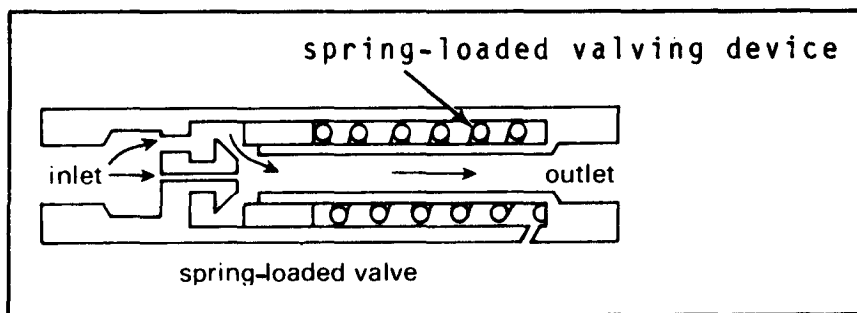
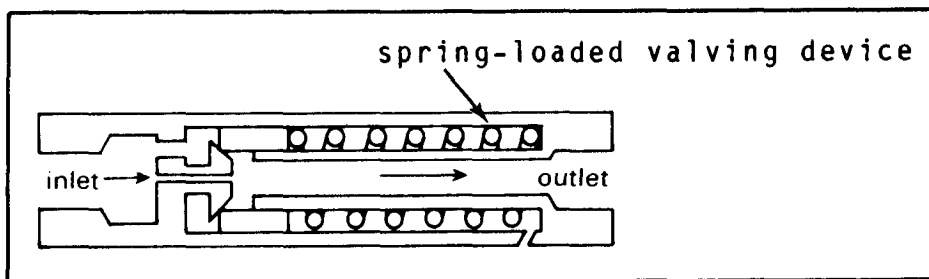

Figure 8-26. Full-flow priority valve with 4 GPM at 1,500 psi.
Figure 8-27. Flow-reduced priority valve with 1 GPM at 1,000 psi.
**Operation.** A priority valve having a full-flow capacity of 4 gallons per minute (GPM) at 1,500 psi (Figure 8-26) and a reduced-flow capacity of 1 GPM at 1,000 psi (Figure 8-27) controls fluid flow to an actuating cylinder that can use as much as 3 GPM. Flow capacity of the orifice is 1 GPM at 1,000 psi and 1.5 GPM at 1,500 psi. Flow capacity past the valve seat is 2.5 GPM at 1,500 psi. When fluid pressure entering the priority valve exceeds 1,000 psi, the force of the fluid on the spring-loaded valving device is enough to overcome the spring tension. This causes the spring-loaded valving device to move toward the outlet port. Fluid then flows through both the orifice and the valve seat. As fluid pressure increases, the spring-loaded valving device moves farther toward the outlet port, causing a greater rate of fluid flow. When fluid pressure within the priority valve drops below 1,000 psi, spring tension overcomes fluid pressure. This seats the spring-loaded valving device against the valve seat. The orifice then becomes the only path for the fluid, cutting the flow rate to 1 GPM.